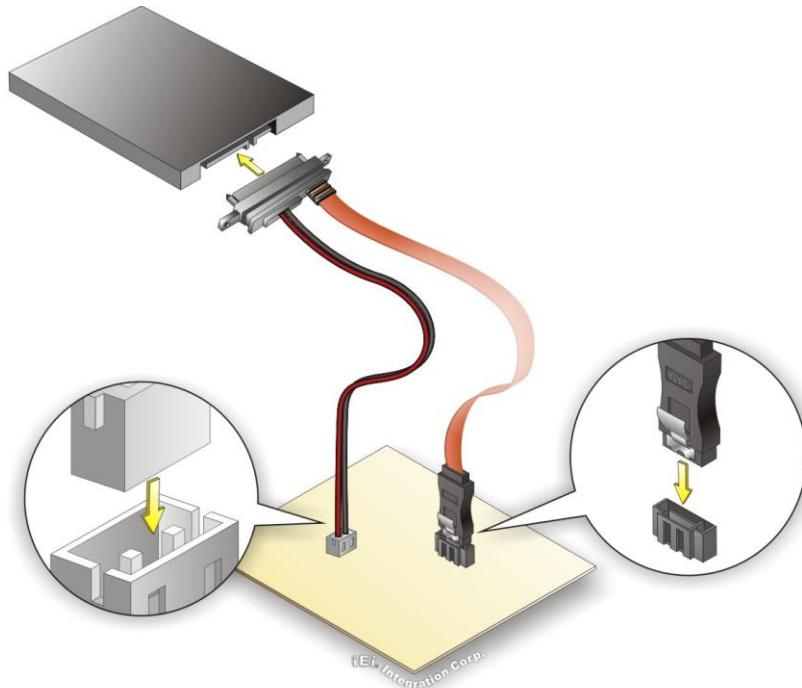

Figure 4-12: SATA Drive Cable Connection
Step 2: **Insert the cable connector.** Insert the cable connector into the on-board SATA drive connector and the SATA power connector. See **Figure 4-12**.